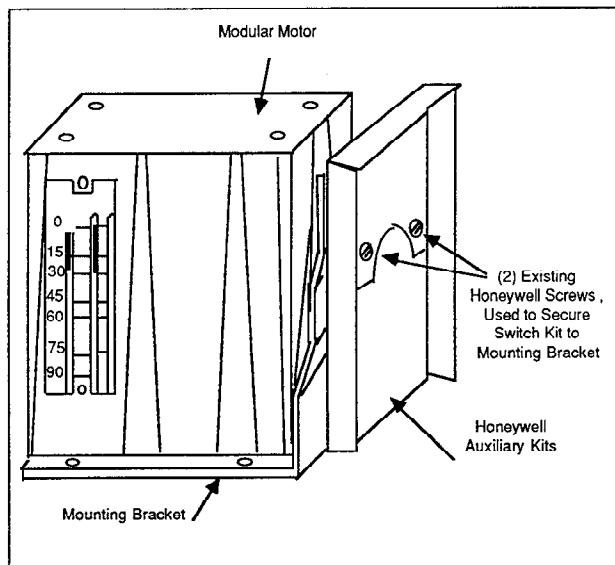

Figure 10. Mounting Auxiliary Kits to Modular Motor
1. Slide the formed side of the bracket onto the motor shaft and secure the motor base to the straight side of the bracket with the 1/4"-20 X 7/8" hexhead bolts provided. (Refer to Figure 10)
WHEN MOUNTING MMR MOTOR TO HONEYWELL Q601E LINKAGE (See Figure 10).